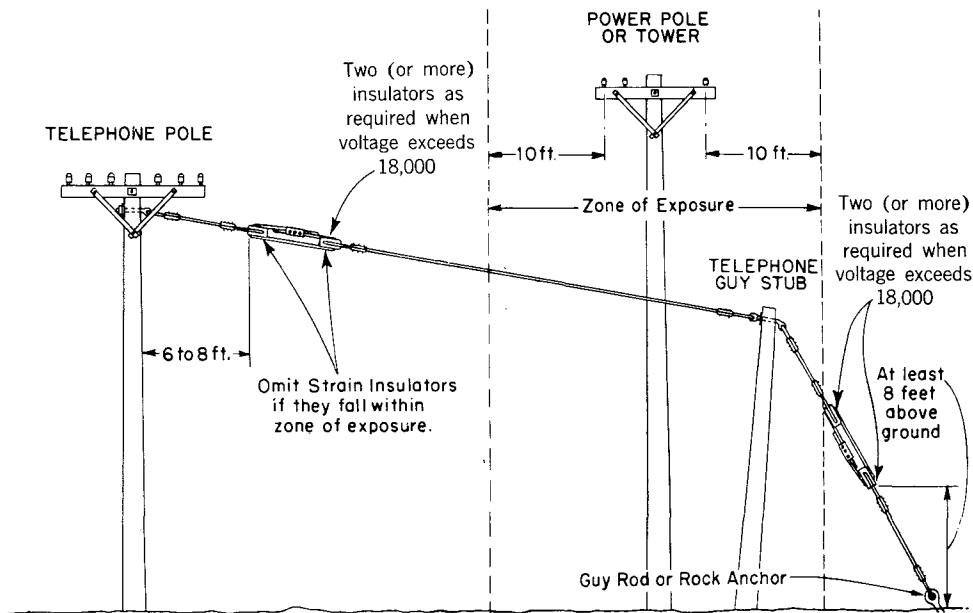

Fig. 3—Insulating Guys in Zone of Exposure—Voltages in Excess of 18,000
3.03 On nonjoint poles, guy strain insulators in pole-to-pole and stub guys shall be located outside of the "zone of exposure." (See Fig. 3.) The zone of exposure is defined as the space within a horizontal distance of 10 feet from a power conductor and extends both above and below the conductor. Strain insulators in anchor guys should be located outside of the zone of exposure.